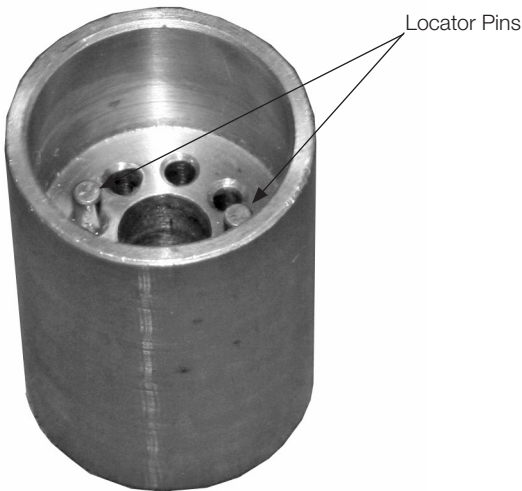

Figure 37. Socket and locator pins
3. Attach the socket to the wrench and align the locator pins toward the fuse. Refer to Figure 37.